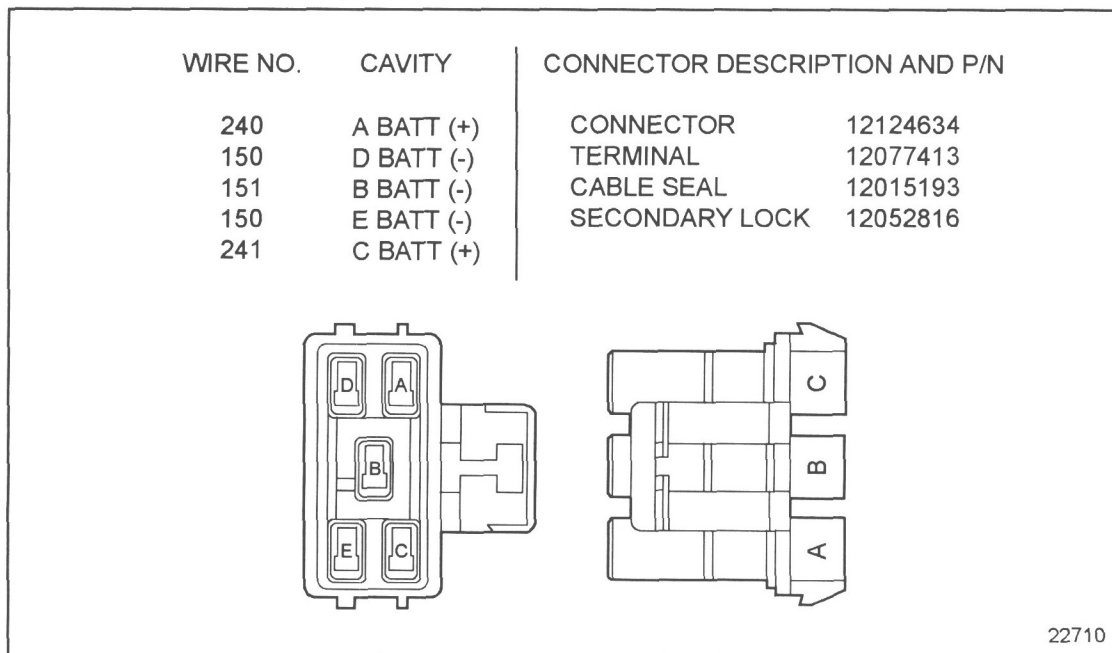

Figure 42-10 5-Way ECM Engine Power Connector
3. Connect 12 volt from a fully charged battery to the 5-pin power connector. See Figure 42-10.